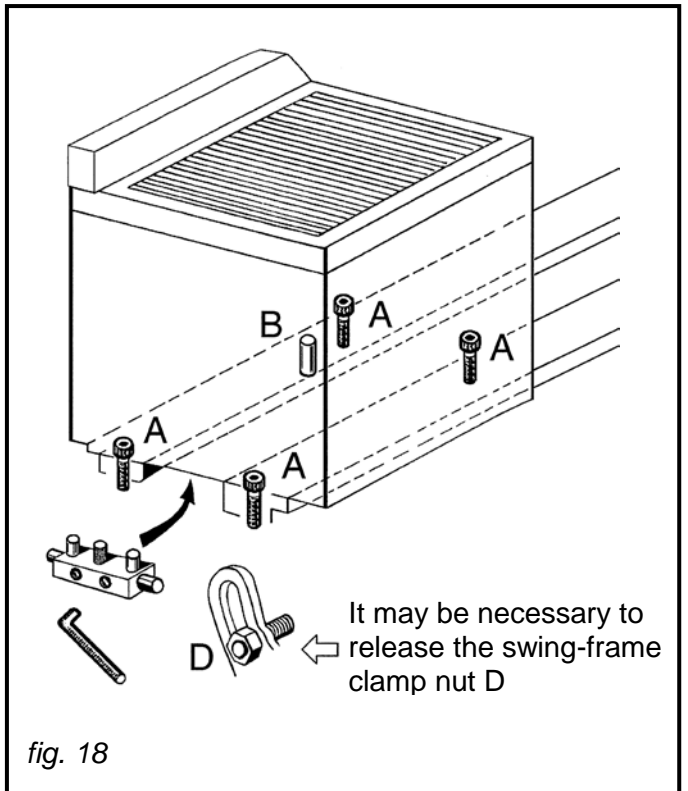

fig. 18
To correct a greater difference in readings, first open the end guard and loosen the four headstock screws (A) shown in Fig. 18 . Adjust the set over pad C to pivot the headstock about the dowel B. Retighten all securing screws after each adjustment. Repeat the test cut and alignment check until the micrometer readings are within tolerance.